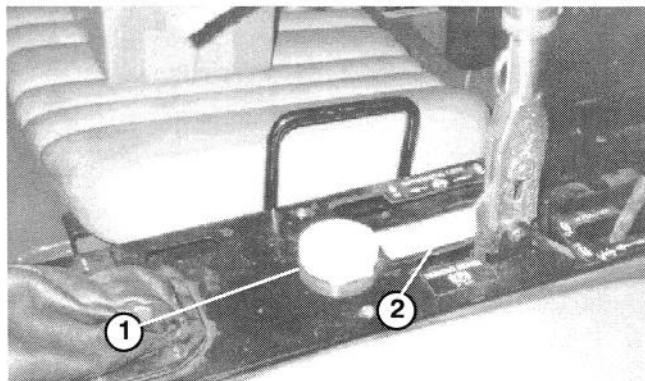

Figure 10
40. Using adhesive supplied in kit, affix circular level to top of console cover positioning as shown in figure 10.
41. Affix operation decal to top of console cover positioning as shown in figure 10.